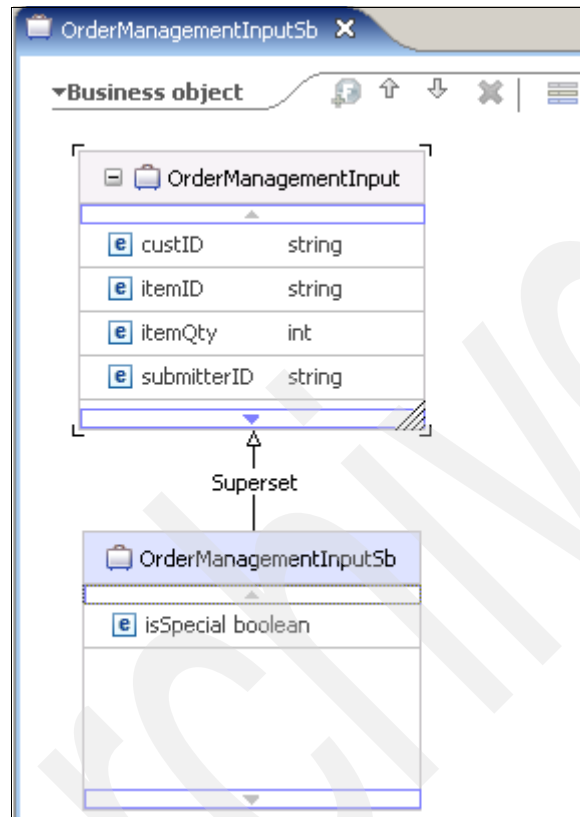

Figure 4-6 *OrderManagementInput business object*
2. The new business object is created in the location that you specified and opens in the business object editor. Add a new boolean field called `isSpecial` to the business object as shown in Figure 4-6.
2. After the object is created, add a new string field called `specialNote`, as shown in Figure 4-6.